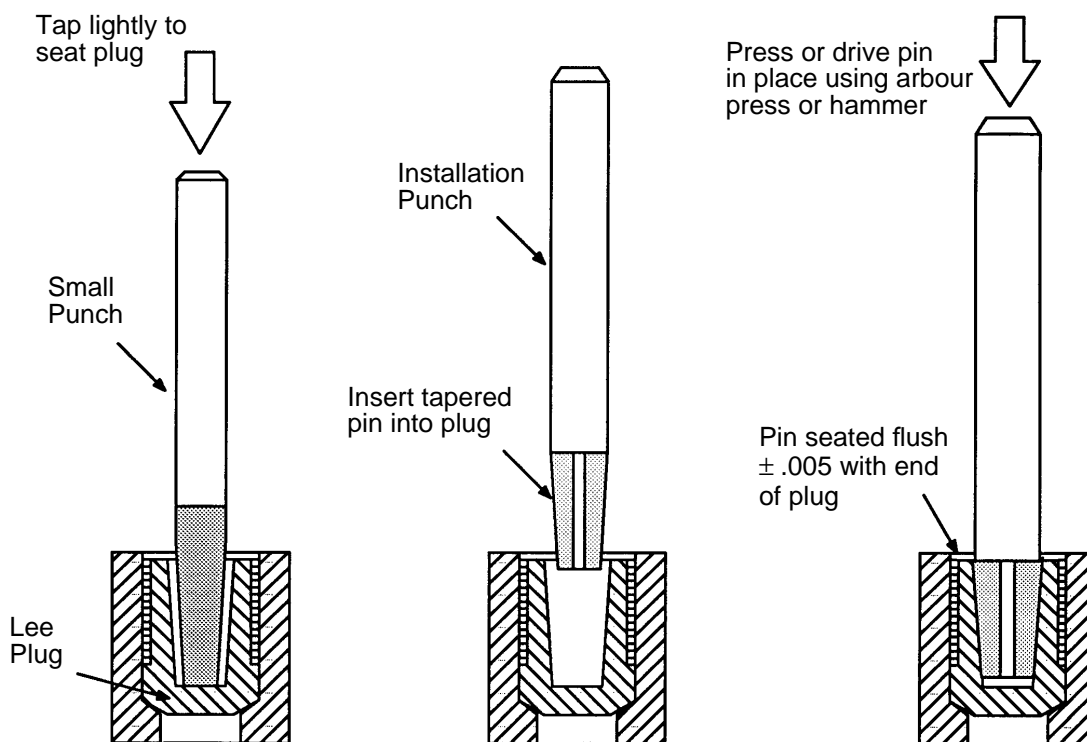

Figure 6 - Installation of Lee Plugs
| Figure 6 - Installation of Lee Plugs | 8 |
5.3.1 Install Lee plugs as follows (see Figure 6):